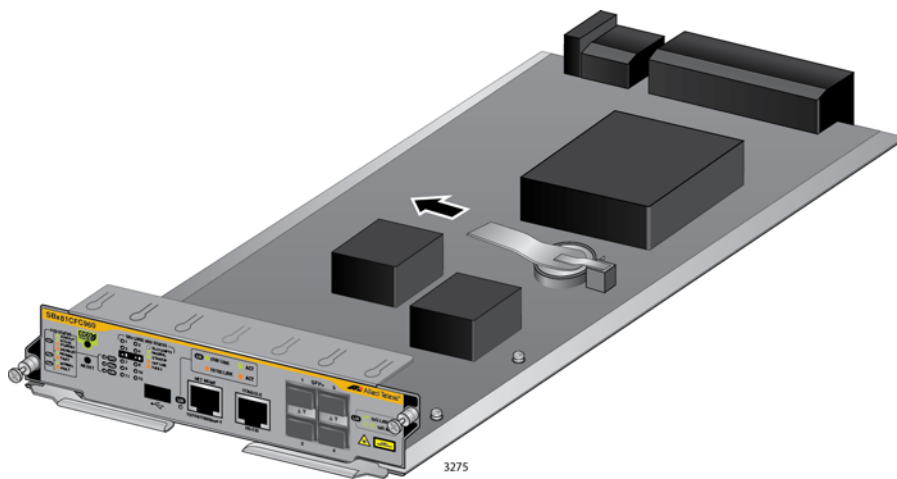

Figure 82. Removing the Battery Insulator
- Carefully remove the battery insulator tab on the controller card by sliding it out from between the battery and battery clip, as shown in Figure 82.